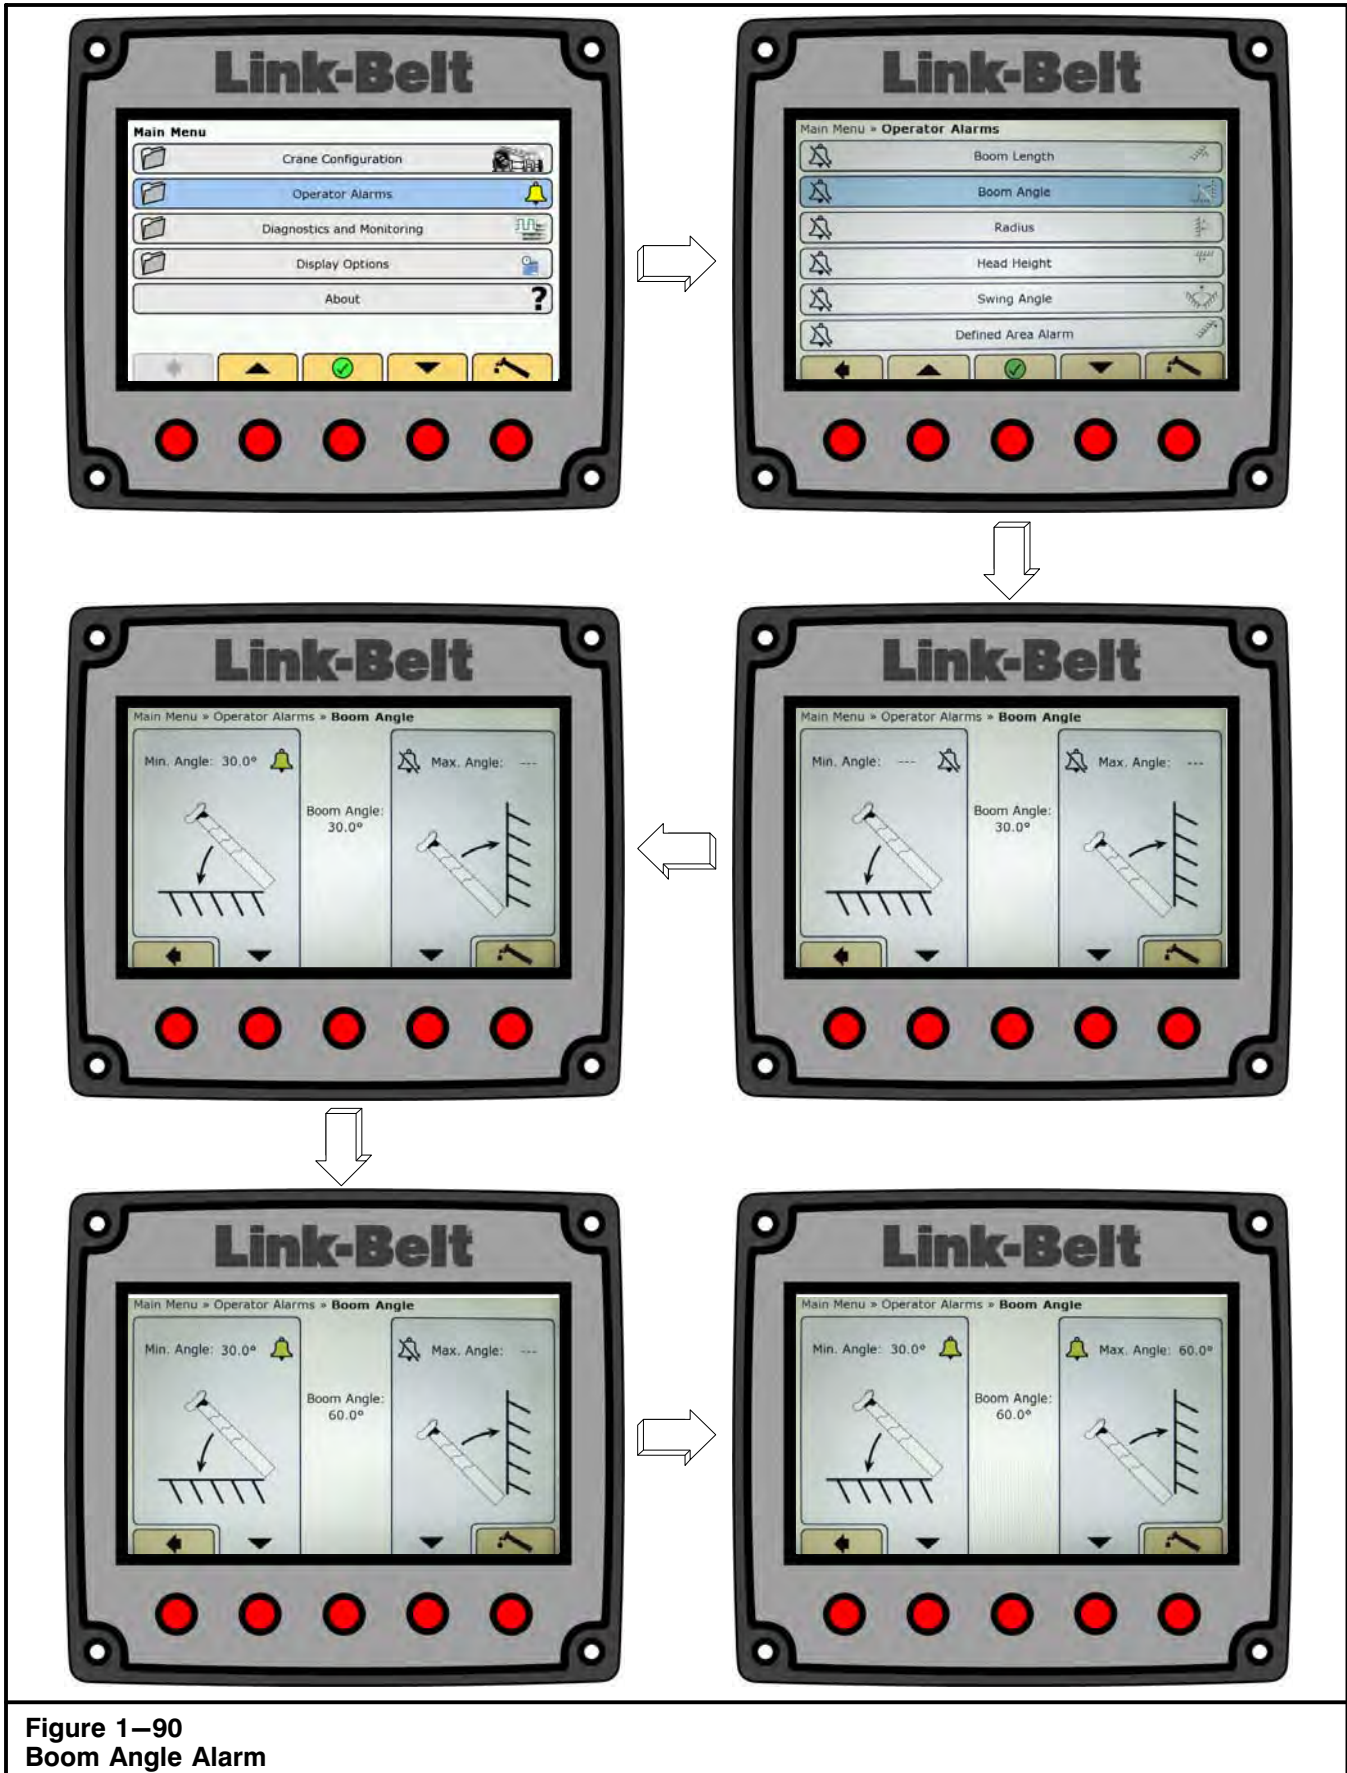

Figure 1-90
2. Scroll to Operator Alarms, and press the OK/Enter button . Refer to Figure 1-90.